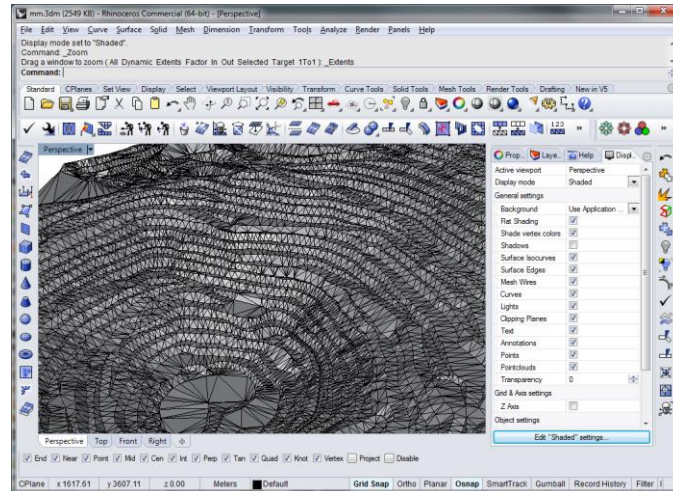

Figure 143: Zoomed in perspective view of the pit.
6. Again, if flat shading it not on, turn it on with command **_FlatShade** (or with the icons) to better see the details of the mesh. Zoom in to see the image below (Figure 143).